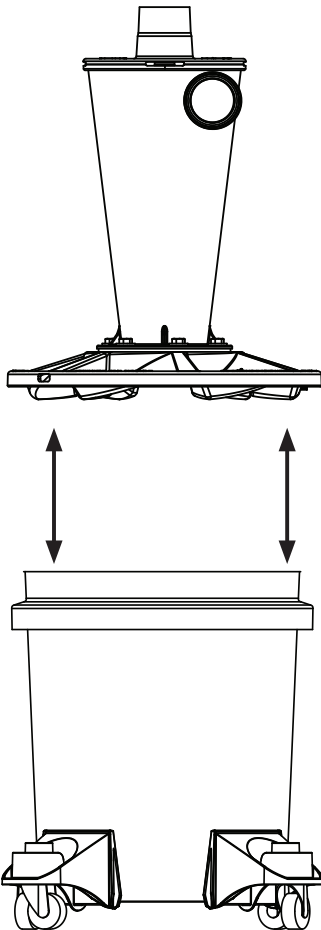

FIG. 8a
Snap the Cyclone (A) and Lid assembly onto the Bucket (F) and ensure it's fully seated [FIG. 8a]. The lid will make an audible click as it seals close.